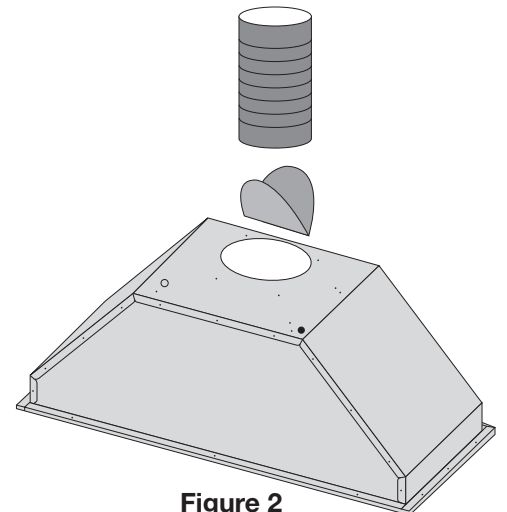

Figure 2
- Fix the damper flap into the damper hole on top of the range hood motor box. (See Figure 2).